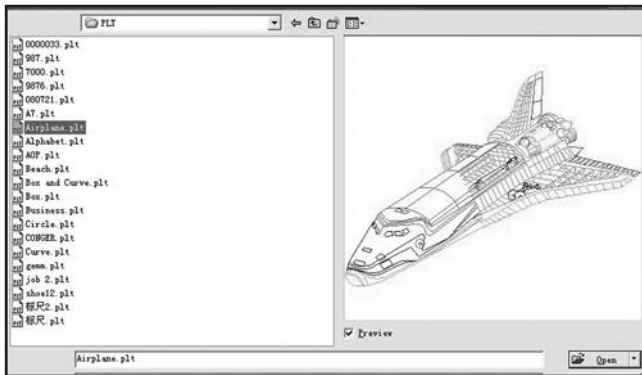

Figure 32. Selecting file to import.
2. Navigate to desired file and select it. File will now be highlighted (see **Figure 32**).